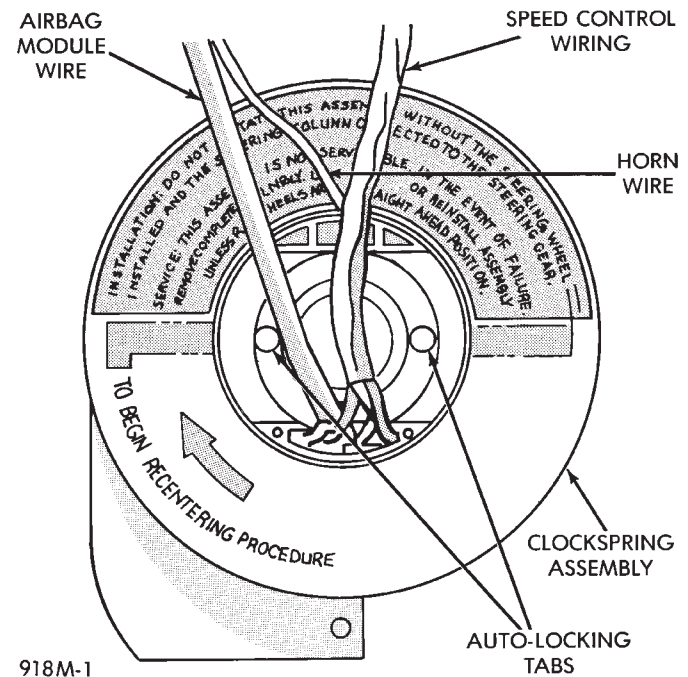

Fig. 4 Clockspring (Auto-Locking)
- (1) Place the front wheels in the straight ahead position before starting the procedure.
- (2) Depress the 2 locking tabs to disengage the locking mechanism (Fig. 4).
- (3) Keeping the mechanism disengaged, rotate the clockspring rotor in the **CLOCKWISE** DIRECTION to the end of the travel. Do not apply excessive torque.
- (4) From the end of travel, rotate the rotor 2 1/2 full turns in the **COUNTER CLOCKWISE** direction. The horn wire should end up at the top and the squib wire at the bottom (Fig. 4).
- (5) Install the steering wheel and air bag module, refer to Steering Wheel Installation.